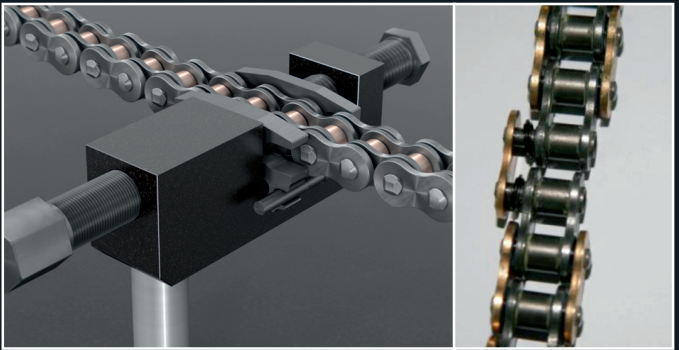

Fig. 5
- Slide the tool using the positioning unit and tighten the pressure screw by hand, such that the chain (including the positioning unit) is clamped in the tool. Ensure once again that the bolts are flush with the holes, then slide the outer plate on by turning the pressure screw. As regards its width, the positioning unit stretches not only beyond the chain lock, but also beyond the two neighbouring links. If, when sliding on the outer plate, the neighbouring plate and the positioning unit come into contact with one another, the outer plate is in the correct position and the sliding-on process is complete. This can be determined with the naked eye. Under no circumstances should you turn the screw further! (Fig. 5)